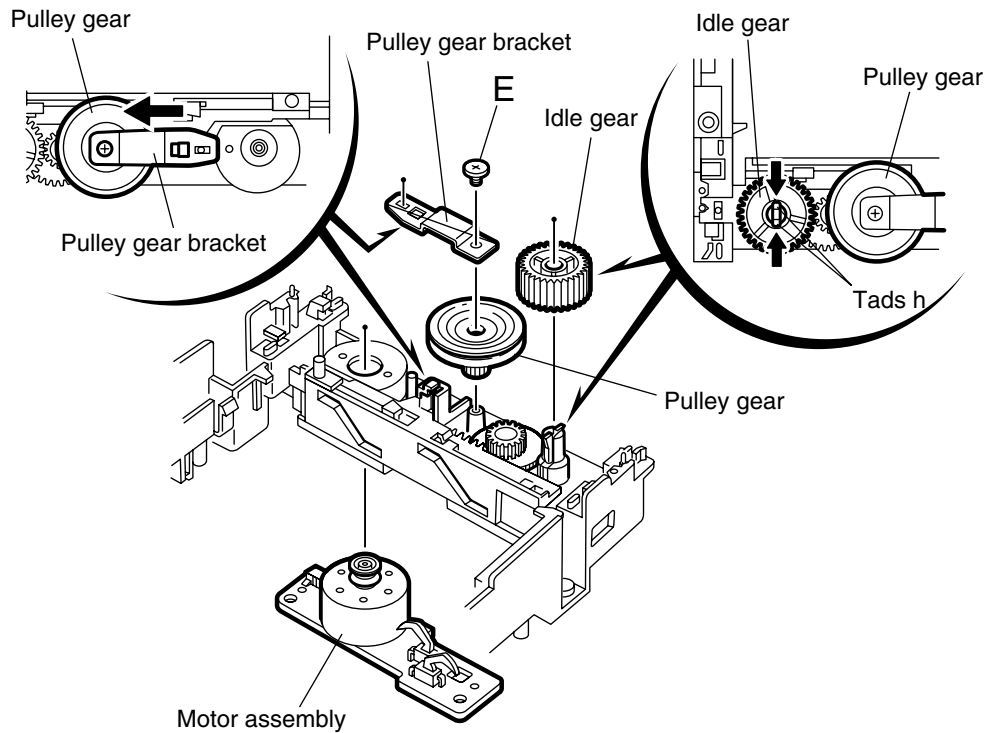

Fig.10
■ Removing the Idle gear / pulley gear / middle gear / slide cam (See Fig.10 to 12)